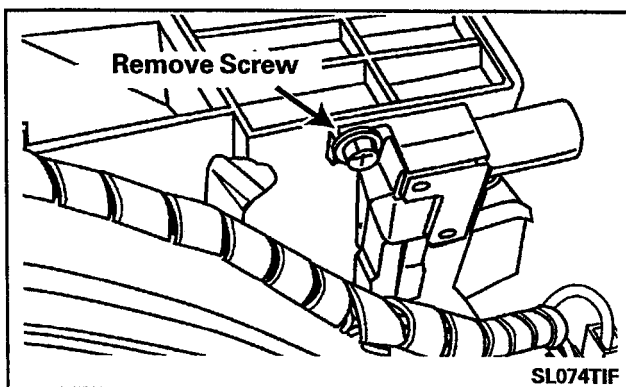

Figure 2-54
4. Remove the two screws securing the switch to the outer tub assembly (*Figure 2-54*).